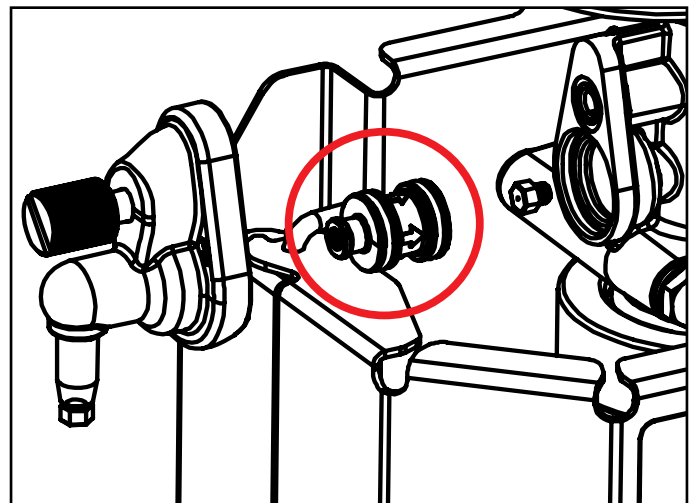

Fig. 9.3: SLX Check Valve (correct orientation)
5. The check valve will be seated either inside of the elbow or the main body. Grab it and pull to remove. [Fig 9.3]